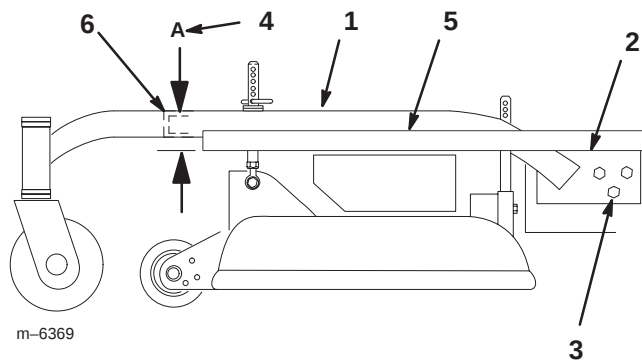

Figure 48
- Place a long straight edge on top of the engine deck as shown in figure 48.
- At the carrier frame cross tube, measure location **A** height (Fig. 48). This measurement must be 1-5/16 inch (33 mm), plus or minus a 1/4 inch (6 mm).
- Loosen the carrier frame mounting bolts on both sides of the machine (Fig. 48).
- Align the carrier frame and engine deck to match 1-5/16 inch (33 mm), plus or minus a 1/4 inch (6 mm) at location **A** (Fig. 48).